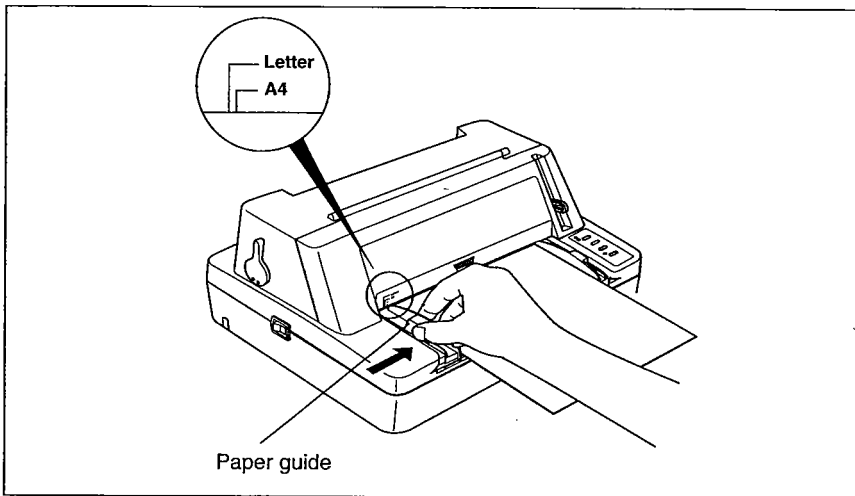

Figure 3-3 Adjusting the paper guide
- 3 Position the left hand cut sheet guide by referring to the marking on the top cover. The positions for A4 and Letter size paper are indicated on the left side of top cover as shown in Figure 3-3.